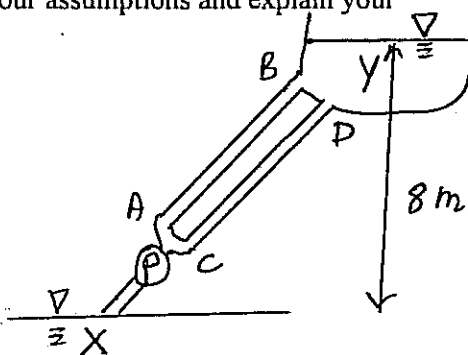

Figure 7
7) A centrifugal pump is to be used to supply water from Reservoir X to Tank Y, as shown in Figure 7. The water is to be supplied using two pipes, AB and CD, in parallel, as shown in the figure. The pipe AB has a length of 500 m, a diameter of 5 cm and a friction factor of 0.25, while the pipe CD has a diameter of 2 cm and a friction factor of 0.1.